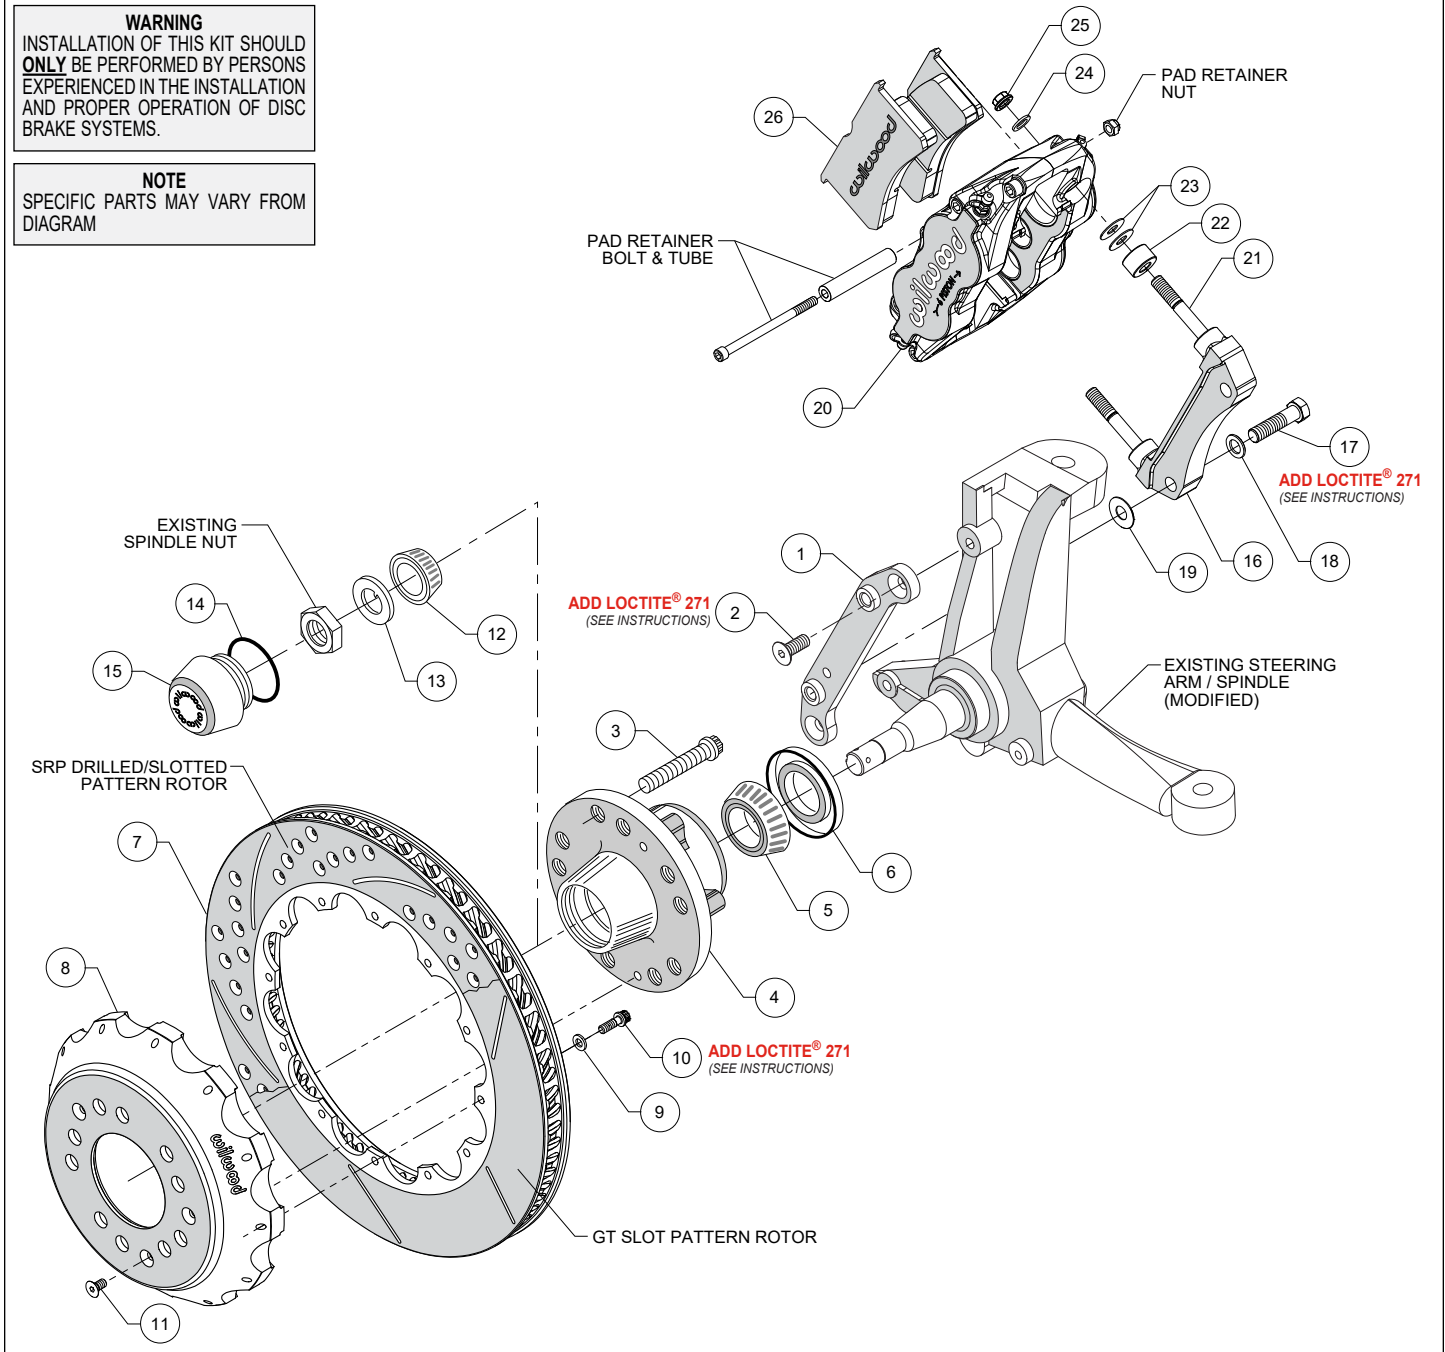
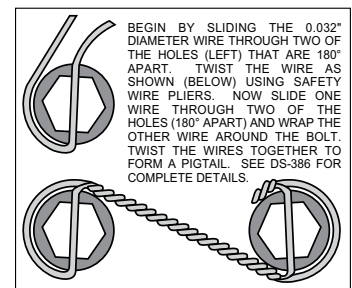

Figure 2. Typical Installation Configuration
Figure 4. Safety Wire Diagram
NOTE: Numbers in parenthesis refer to the parts list on the preceding page and Figure 2.
- Orient the caliper mounting flat bracket (1) as shown in Figure 2 and install using bolts (2). **NOTE:** Be sure the heads of the flat mount bracket clinch nuts (1) are facing outward toward the wheel. Temporarily tighten the mounting bolts. **NOTE:** The bracket must fit squarely against the mount bosses on the upright. Inspect for interference from casting irregularities, machining ridges, burrs, etc. After the bracket fitment has been checked, remove the bracket mounting bolts (2) one at a time, apply red *Loctite*® 271 to the threads and torque to 30 ft-lb.
- Install five new wheel studs (3) into the hub (4). Torque to 77 ft-lb. **NOTE:** There are two five lug patterns in the hub (5 x 4.50 and 5 x 4.75). Make sure of the correct hole pattern for the correct wheel application before installing studs into hub.
- Pack the large inner bearing cone (5) with high temperature disc brake bearing grease (available from your local auto parts store) and install into the backside of the hub (4).
- Install the grease seal (6) by pressing into the backside of the hub (4).
- Pack the small outer bearing cone (12) with high temperature disc brake bearing grease and install into front side of the hub (4). Slide the hub assembly (4, 5, 6 and 12) onto the spindle. Secure using spindle washer (13), stock adjusting nut, and nut locking device. Adjust wheel bearing pre-load per Original Equipment Manufacturer (OEM) specifications.
- Install the o-ring (14) and the dust cap (15) into the hub (4). **NOTE:** O-ring (14) friction will not allow cap (15) to unscrew on its own.
- With the larger I.D. side of the rotor (7) facing away from the hat (8), bolt rotor (7) to hat (8) through the backside of the rotor using washers (9) and bolts (10). Apply red *Loctite*® 271 to the bolt threads and torque to 155 **in-lb** using a criss-cross pattern. For an added measure of security, the bolts may be safety wired using standard 0.032 inch diameter stainless steel safety wire as shown in Figure 4. Please refer to Wilwood's data sheet DS-386 (available at www.wilwood.com/Pdf/DataSheets/ds386.pdf) for complete safety wire installation instructions.
- Slide the rotor/hat assembly over the studs (3) in the hub (4) taking care to align the small countersunk holes in the hat (8) with the small threaded holes in the hub (4). Install three flat head socket head screws (11) through the small holes in the hat (8) and torque to 85 **in-lb**. Check to be sure the hat seats squarely against the hub face.
NOTE: Please reference the caution statement at the beginning of the assembly instructions. The radial mount caliper bracket (16) should initially be installed with clean, dry threads on the mounting bolts (17). Orient the bracket, as shown in Figure 2 and install using bolts (17) and washers (18). Initially place one .030" thick shim (19) on each bolt between the radial mount caliper bracket (16) and caliper mounting flat bracket (1), Figure 2. Temporarily tighten the mounting bolts. Later, after the caliper alignment has been checked, the mount bolts will be secured using red *Loctite*® 271.
- NOTE:** This kit contains distinct right and left hand calipers that must be mounted in a specific direction, as described below. Initially place spacer (22) and two .035" thick shims (23) on each stud (21) as shown in Figure 2. Mount the caliper (20) onto the radial mount caliper bracket (16) using lock nuts (25) and washers (24), Figure 2. Ensure that the caliper is mounted so the largest pistons are at the rotor exit end of the caliper, in relation to the forward direction of rotor rotation. Temporarily tighten the lock nuts and view the rotor through the top opening of the caliper. The rotor should be centered in the caliper. If not, adjust by adding or subtracting .030" shims (19) as necessary between the radial mount caliper bracket (16) and the caliper mounting flat bracket (1). Always use the same amount of shims on each of the two mounting bolts (17). Once the caliper alignment is correct, remove the radial mount caliper bracket bolts (17) one at a time, apply red *Loctite*® 271 to the threads, and torque to 47 ft-lb.
- Remove the caliper pad retainer bolt, locknut, and tube from the caliper. Slide the brake pads (26) into place. They should install easily without interference. Check that the outside radius of the brake pad is flush with the outside diameter of the rotor face. Add or subtract shims (23) between the caliper and mount bracket to gain the proper alignment. Reinstall the caliper and torque the caliper nuts (25) to 28 ft-lb. Reinstall the pad retainer tube, bolt, and locknut. The locknut should be snug without play in the bolt or tube. Be cautious not to over tighten.